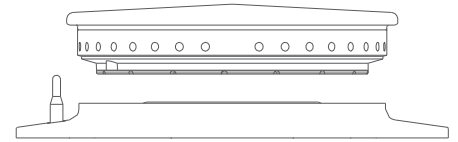

Figure 8 – Brass burner head and Bezel
- Remove brass burner head and aluminium bezel by lifting upward.(**Figs 8,12**).
Stubborn debris lodged in ports (*See Figure 8*) can be removed using a non-metallic implement (*ie. cocktail stick*). The slots in base should be freed of debris using a soft brush. Dry burner with a lint-free cloth and blow through ports to ensure there is no blockage